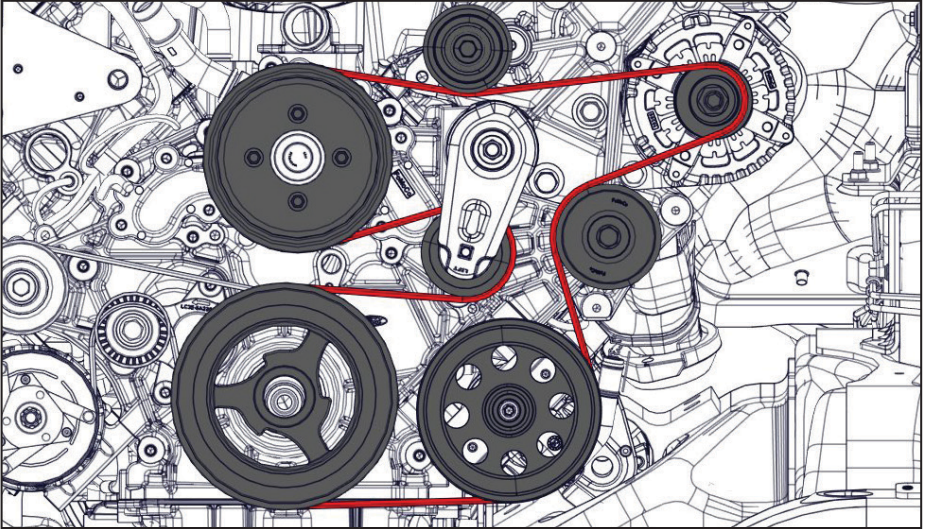

Figure 32 — OEM FEAD belt routing
- ☐ Install and tension the single alternator OEM FEAD belt (see note on page 8) (Figure 32).